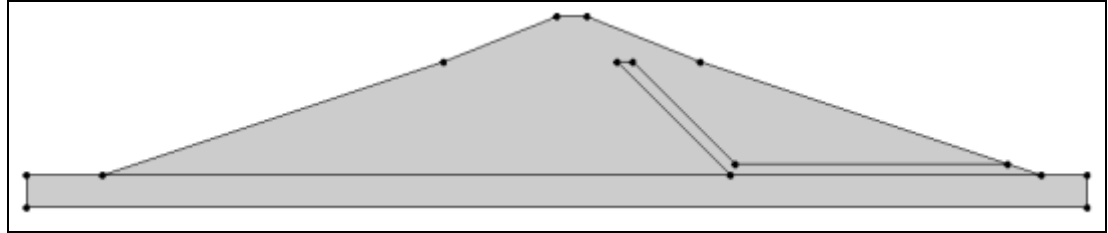

Figure 2 Arcs connecting points
4. Using Figure 2 below as a guide, click on the points to connect them with arcs to create the slope.